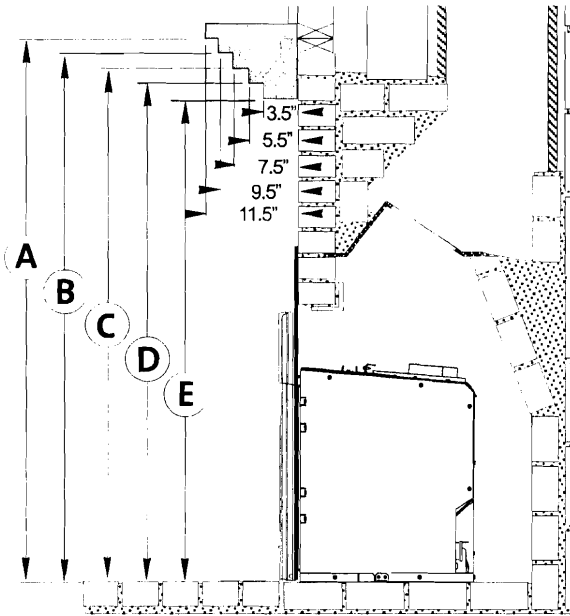

Figure 5. Minimum Mantel Clearances shown measured from the hearth surface to the mantel surface.
- E: Top Trim Clearance = Same as 3.5" deep mantel - See fig. 5.